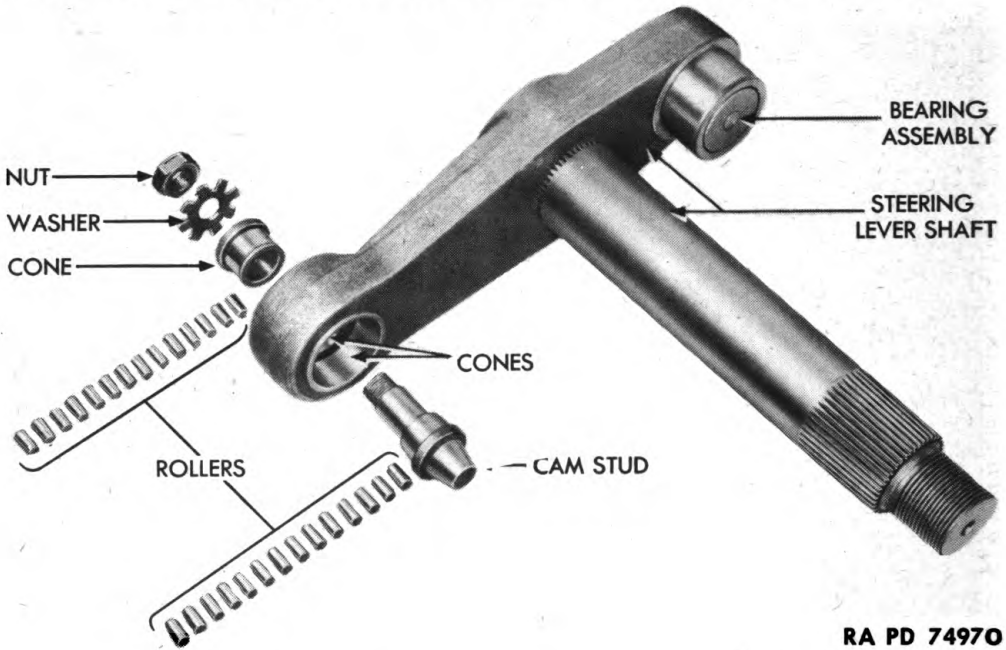

Figure 15 — Steering Lever Shaft — Disassembled
a. **Assemble Steering Lever Shaft (fig. 15).** Press cones in shaft, lay grease on cones, and install rollers. Drive stud onto shaft, and install washer and nut. Bend leg of washer against nut.